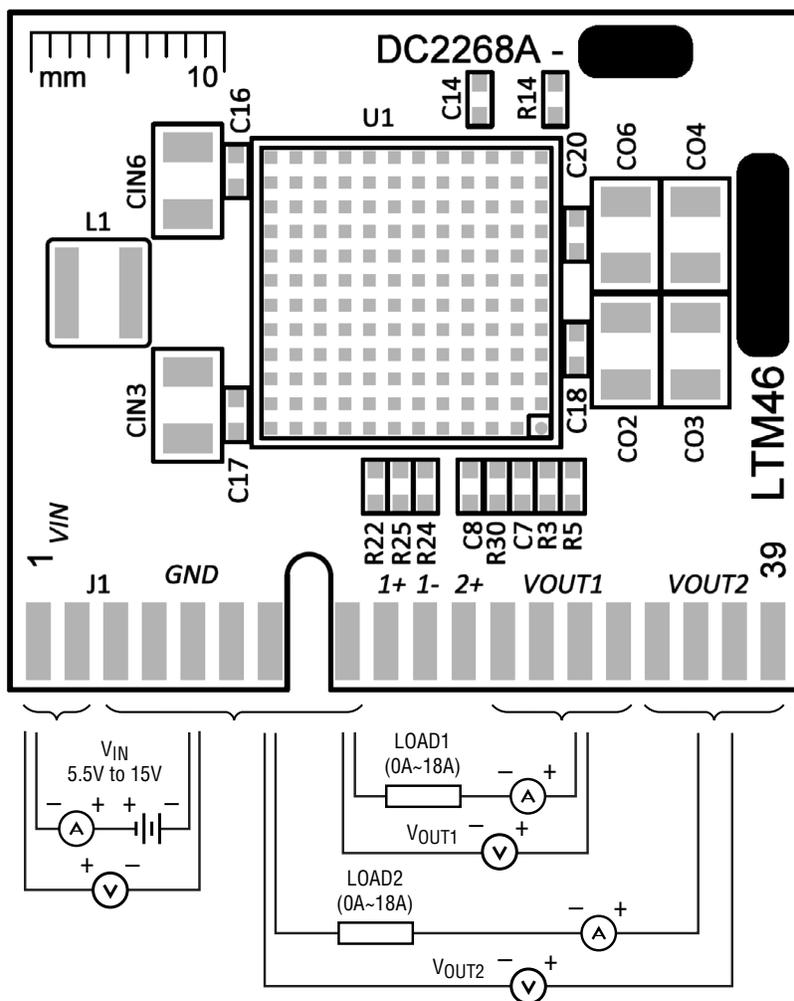

Figure 2. Test Setup of DC2268A-F
DC2268A-F is easy to set up to evaluate the performance of the LTM4630A. It can be easily inserted to an edge connector (SAMTEC MEC2-20-01-L-DV--TR) for testing and debugging. Please refer to Figure 2 for proper measurement setup and follow the procedure below:
2. With power off, connect the input power supply, load and meters as shown in Figure 2. Preset the load to 0A and V_{IN} supply to 12V.